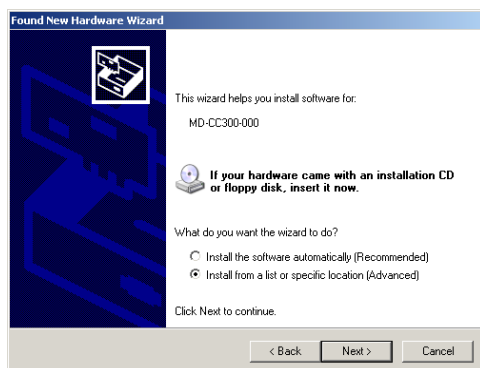

Figure A.5: Hardware Update Wizard Screen 2
- 5) Select "Install from a list or specific location (Advanced)" on the radio buttons in answer to the query "What do you want the wizard to do?" Click "Next" (Figure A.5).